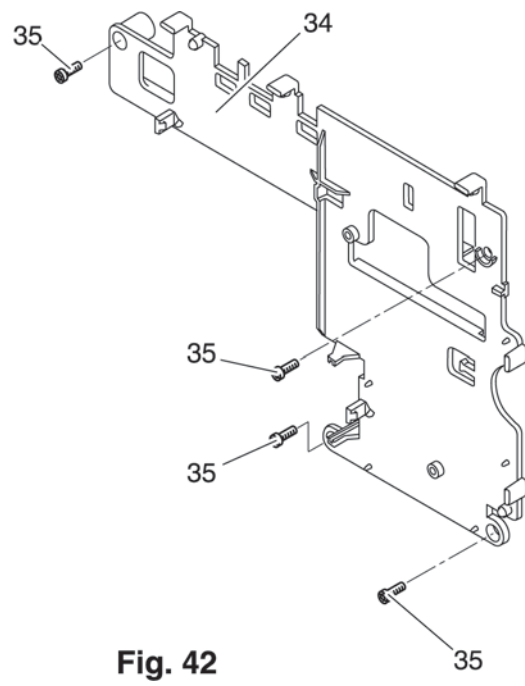

Fig. 42
- Remove the four fastening screws 35 of circuit board bracket 34 (fig. 42).
- Attach circuit board bracket 34 and secure it with the four fastening screws 35 (fig. 42).